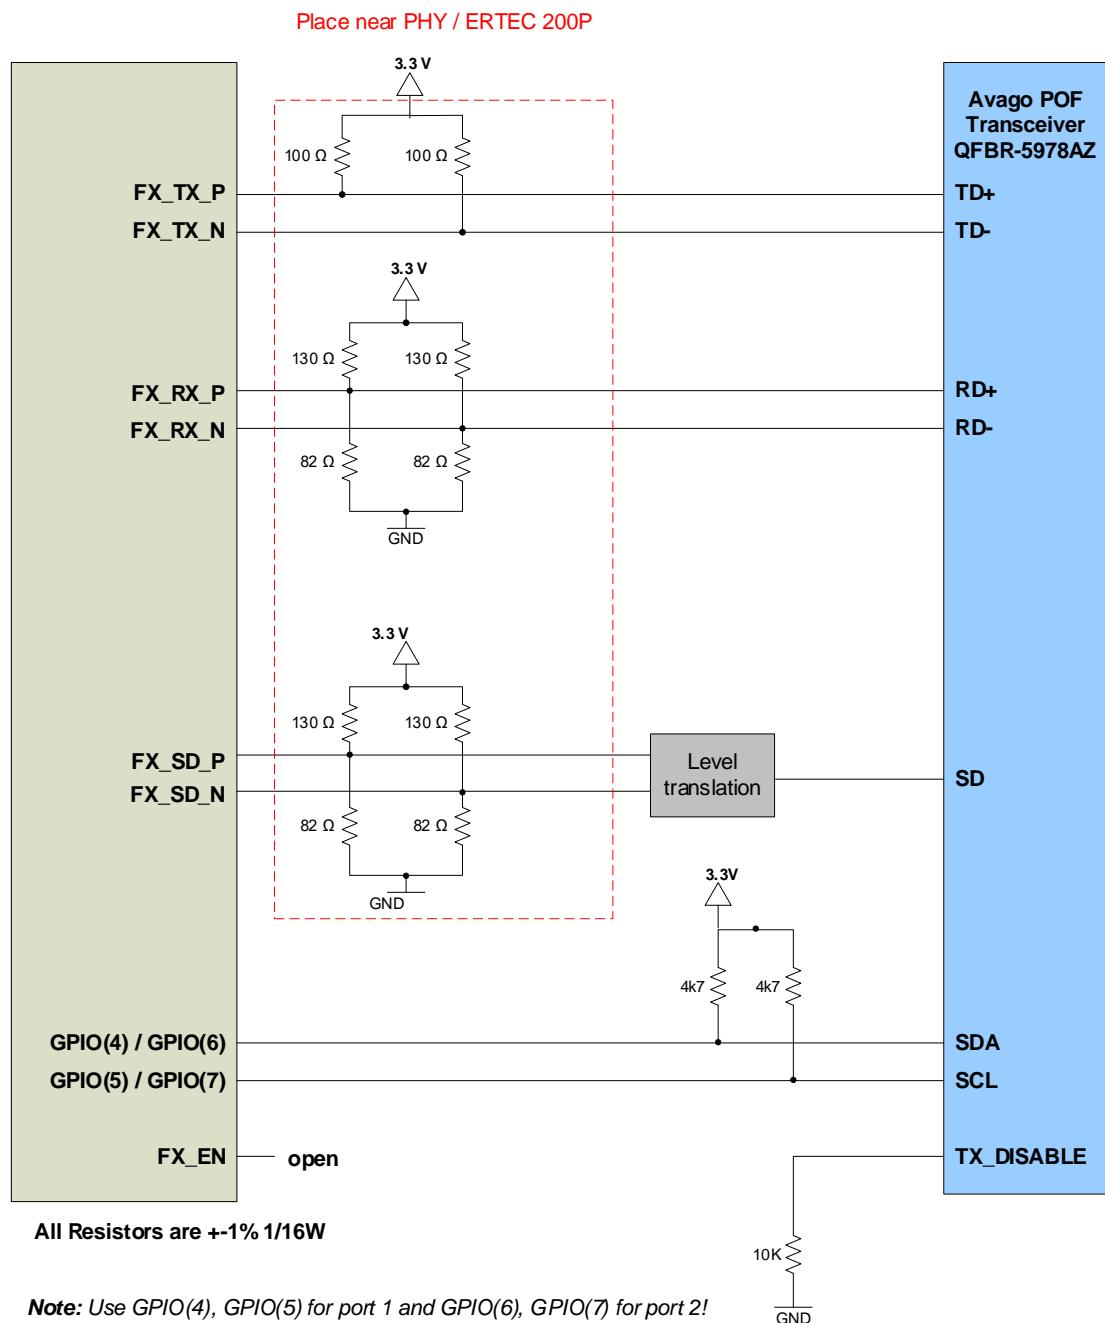

Figure 3-8: PHY FX circuit
- Pay attention to level translation between transceiver SD pin and ERTEC 200P-3 ASIC PHY input, see recommended circuit in Figure 3-8.
Figure 3-8 shows the recommended FX circuit.